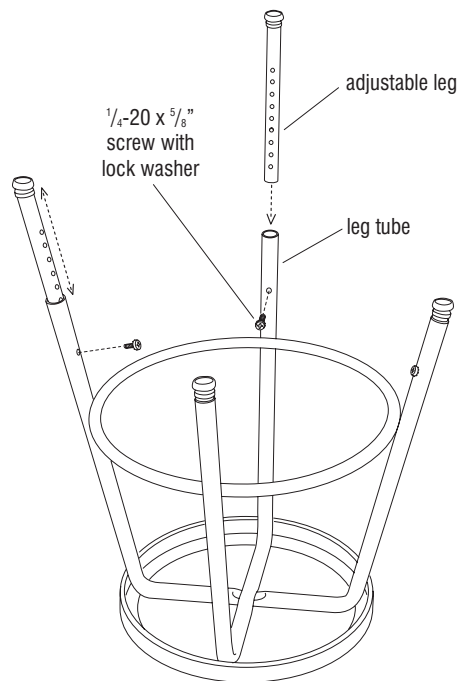

Figure 1
2. Carefully turn stool upside down on a soft protective surface. Slide each adjustable leg into the leg tube of the stool frame and align the mounting holes to the desired stool height (Figure 1).
3. Using a #3 Phillips screw driver, thread each screw through the mounting hole in the leg tube, and into the adjustable leg until the lock washer fits snugly. Tighten all screws securely (Figure 1).